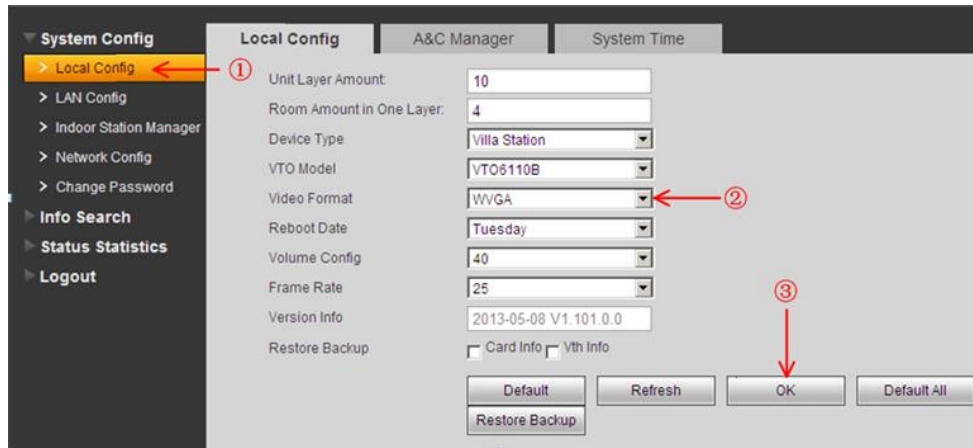

Figure 2-2
Step 1 Check system Config>Local Config> set Video Format into WVGA, see Figure 2-2